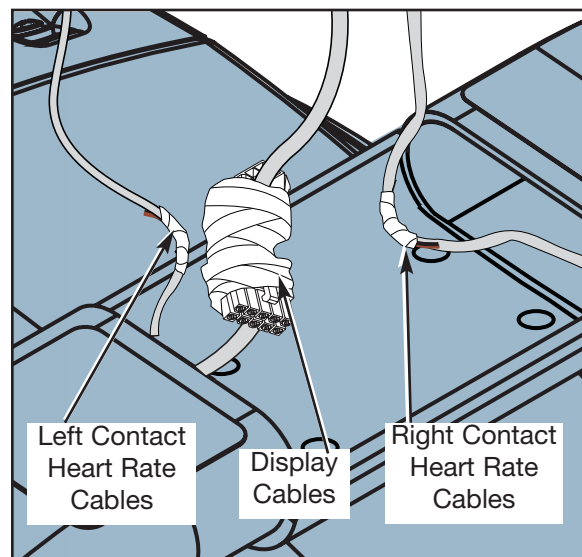

Figure 33
- C.** Tape the new pairs of contact heart rate wires to the old wires cut in step 6A. See Figure 33. **NOTE:** One brown wire and one black wire make a pair.
- E.** Tape the new 10 pin connector to the old lower display cable. **NOTE:** Be sure to tape the correct ends together. See Figure 33.